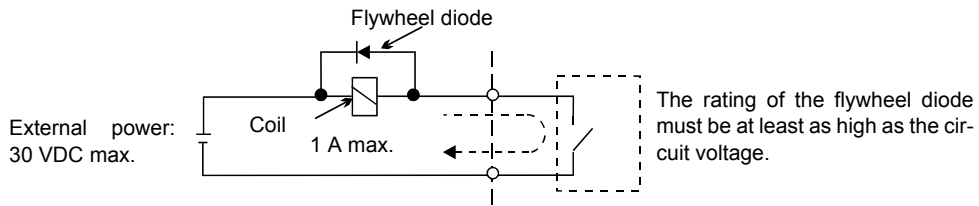

Fig 2.18 Flywheel Diode Connection
- \*3. When driving a reactive load, such as a relay coil with DC power supply, always insert a flywheel diode as shown in Fig 2.18